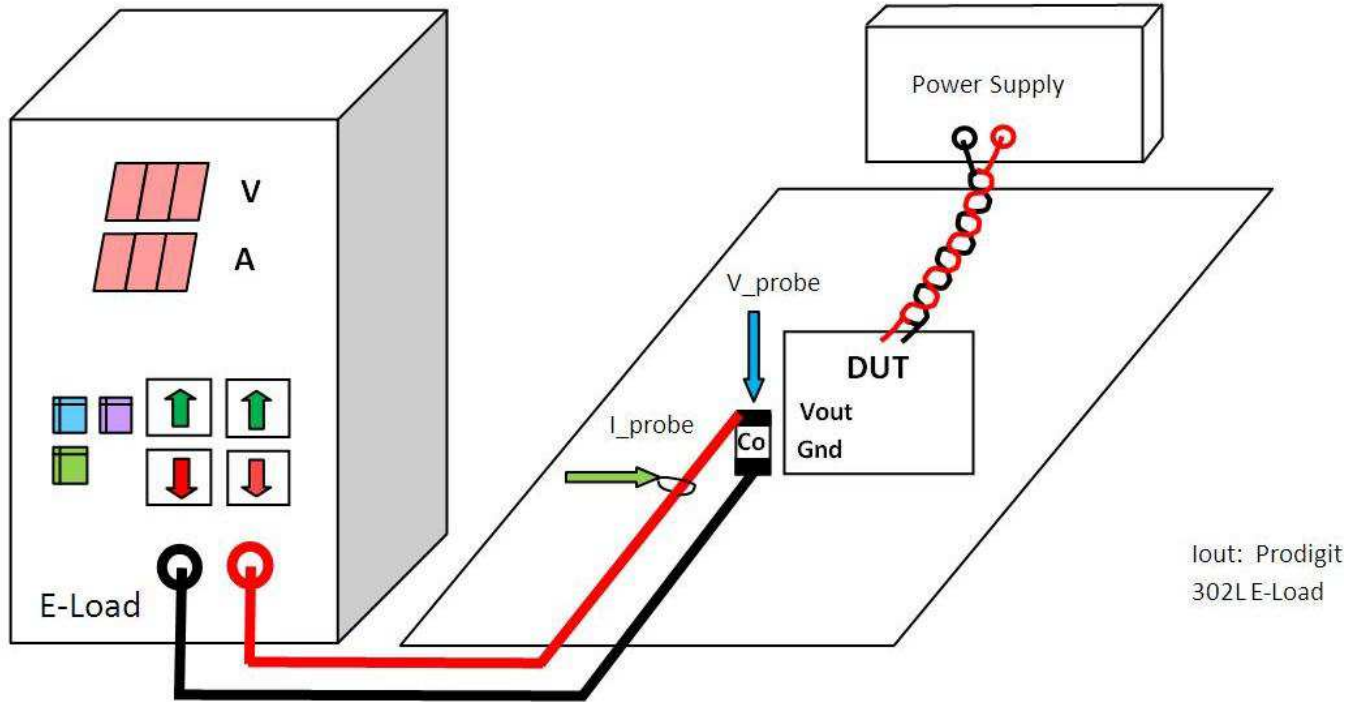

Figure 4. Using a Commercial Electronic Load Test Setup
1. **Electronic Load (or E-load as it's often called)** is a device or assembly that simulates loading on an electronic circuit. It is used as substitute for a conventional ohmic load resistor (see Figure 4). Many industrial E-load makers spec their high slew rates capable of  $30A/\mu s$  and  $50A/\mu s$ . But if a couple amps is needed, the maximum slew rate obtainable is, unfortunately, about  $1A/\mu s$ .